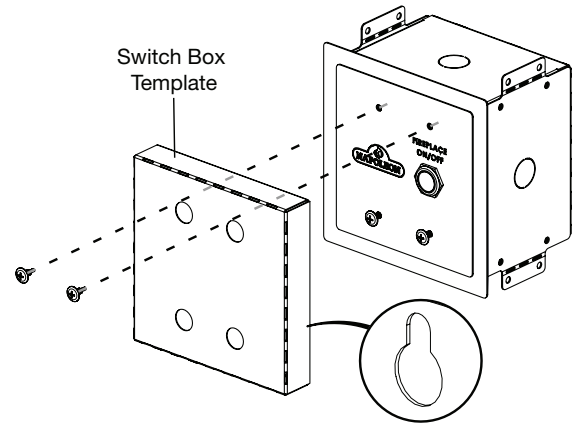

FIG. 2
2. Attach the switch box finishing materials template to the assembled control switch (FIG 2).